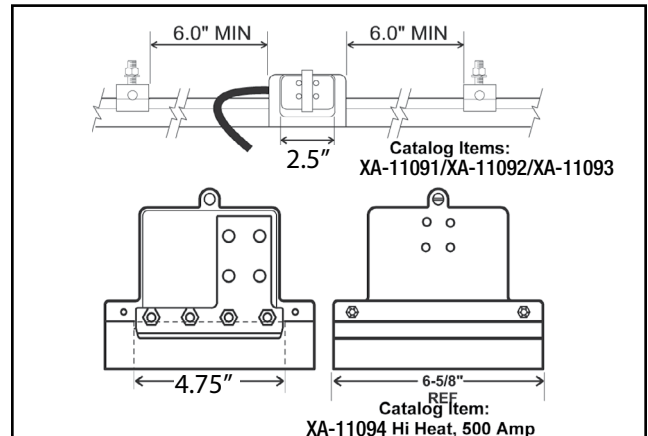

Figure 25-1
A. Install powerfeeds at locations shown on installation drawing. If no drawing was provided, locate powerfeeds following the designated space considerations as shown. See **Figure 25-1**.
B. Cut conductor bar cover as shown. See **Figure 25-1**.